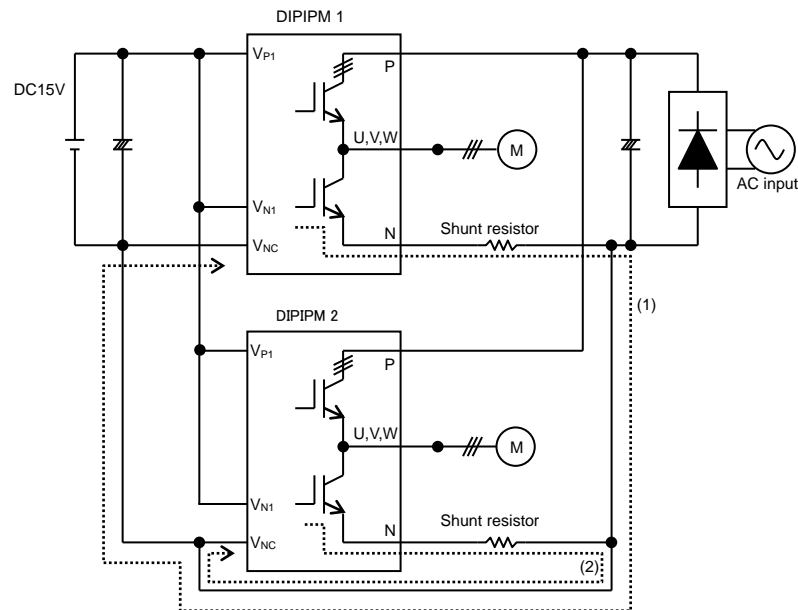

Fig.3-1-13 Parallel operation
Fig.3-1-13 shows the circuitry of parallel connection of two DIIPIMs. Route (1) and (2) indicate the gate charging path of low-side IGBT in DIIPIM No.1 & 2 respectively. In the case of DIIPIM 1, the parasitic inductance becomes large by long wiring and it might have a negative effect on DIIPIM's switching operation. (Charging operation of bootstrap capacitor for high-side might be affected too.) Also, such a wiring makes DIIPIM be affected by noise easily, then it might lead to malfunction. If more DIIPIMs are connected in parallel, GND pattern becomes longer and the influence to other circuit (protection circuit etc.) by the fluctuation of GND potential is conceivable, therefore parallel connection is not recommended.